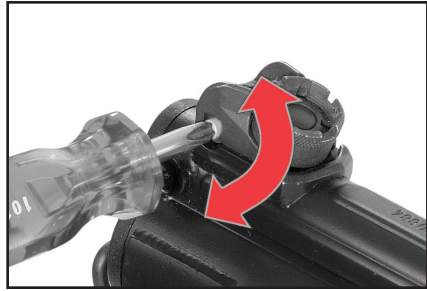

Fig. 22 – Turn windage adjustment screw
2. Turn windage adjustment screw clockwise (Fig. 22). One, 360-degree turn changes the point of impact by approximately 2 inches at 25 meters.
2. Turn windage adjustment screw counter-clockwise (Fig. 22). One, 360-degree turn changes the point of impact by approximately 2 inches at 25 meters.